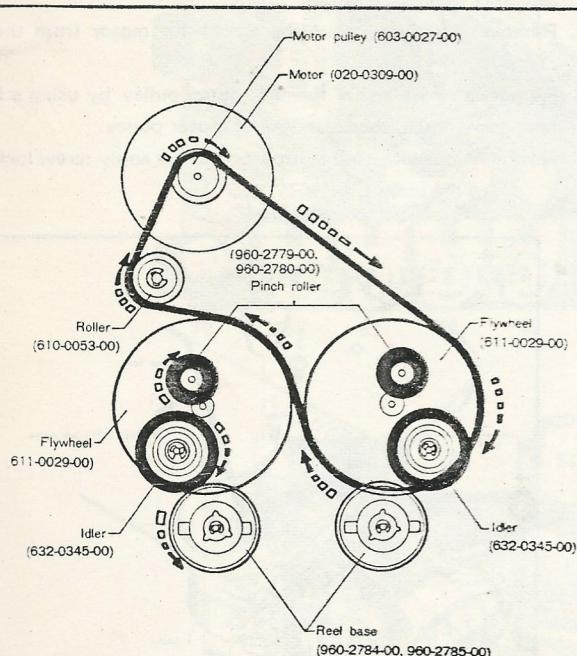

Fig. 7.
* Rotation drive mechanism (Refer to Fig. 7)
Rotation directions of each rotation drive part is given in Fig. 7. illustrates the rotation directions for the forward playback.